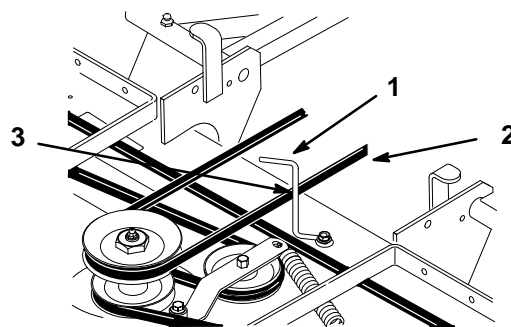

Figure 8
1. Loosen belt guide (Fig. 8).
2. Rotate the belt guide, on rear of the mower, so it is 1/8"–1/4" (3–7 mm) away from the vertical side of the PTO belt (Fig. 8).